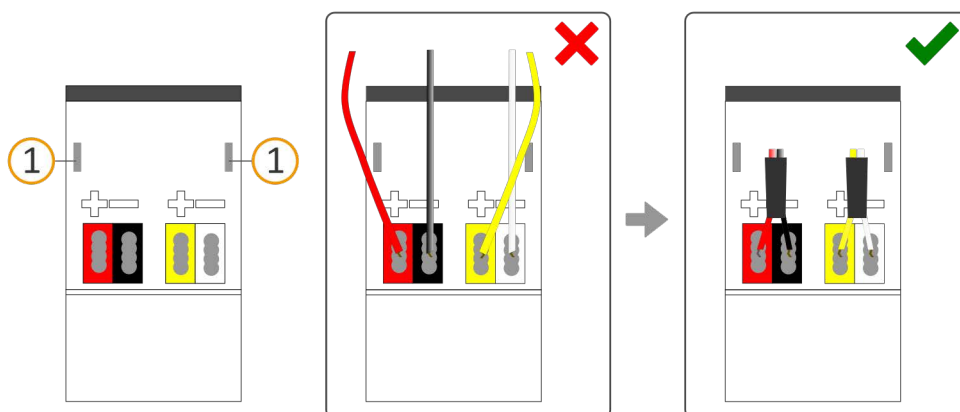

Figure 10: Cable routing
- a. Route all cables to the back. The openings for fastening the cover cap (see figure 10, item 1) must be clear. All cables must be between the openings.